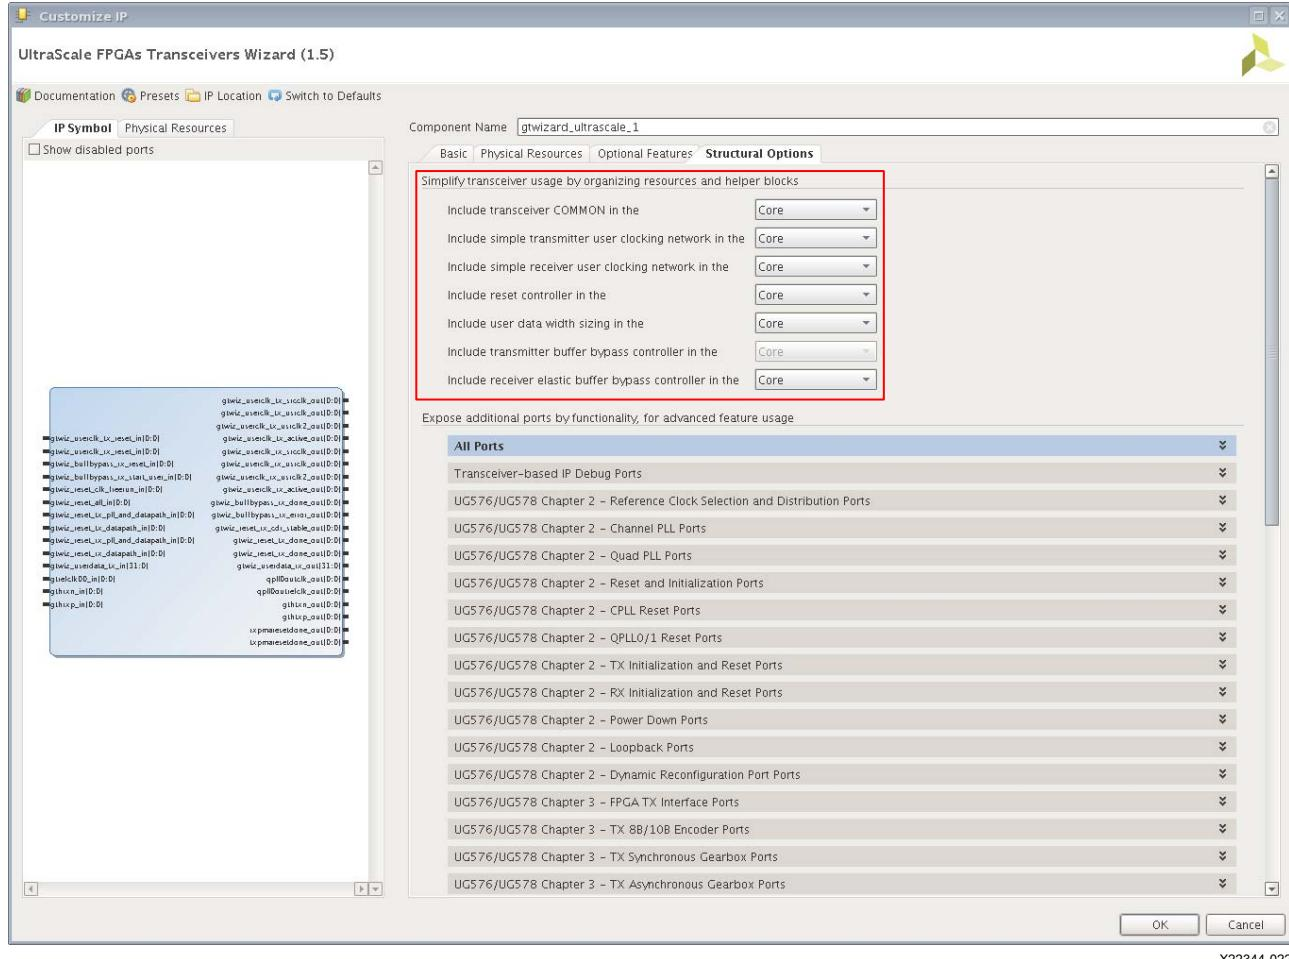

Figure 11: Wizard Structural Options Tab
2. Configure all helper blocks to be located within the core as shown in Figure 11.